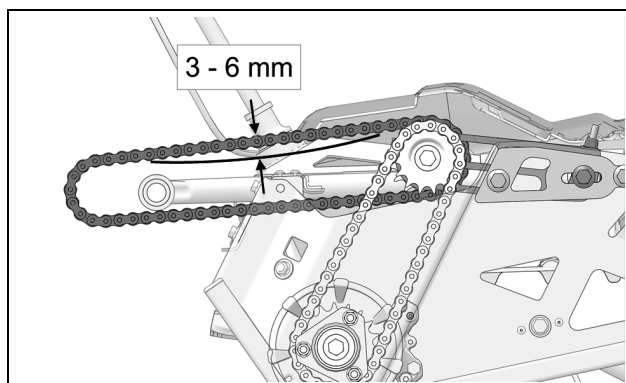

Figure 11
- Once the secondary drive chain tension is set, finalize tension adjustment of primary drive chain. Apply pressure at center of the two drive pignons. The chain should have 3-6 mm (1/8 - 1/4 in.) of play. Re-adjust until the right amount of play is obtained. See Figure 11.